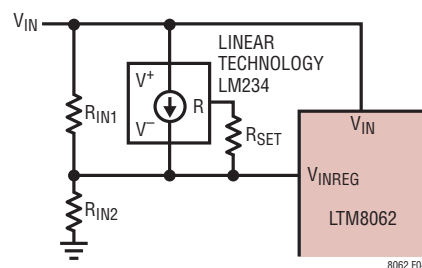

Figure 4. MPPT Temperature Compensation Network
In the circuit shown in Figure 4,
As the temperature coefficient for V_{MP} is similar to that of V_{OC} , the specified temperature coefficient for V_{OC} (TC) of $-78\text{mV}/^\circ\text{C}$ and the specified peak power voltage ($V_{MP}(25^\circ\text{C})$) of 17.6V can be inserted into the equations to calculate the appropriate resistor values for the temperature compensation network in Figure 4. With R_{SET} equal to 1k, then: